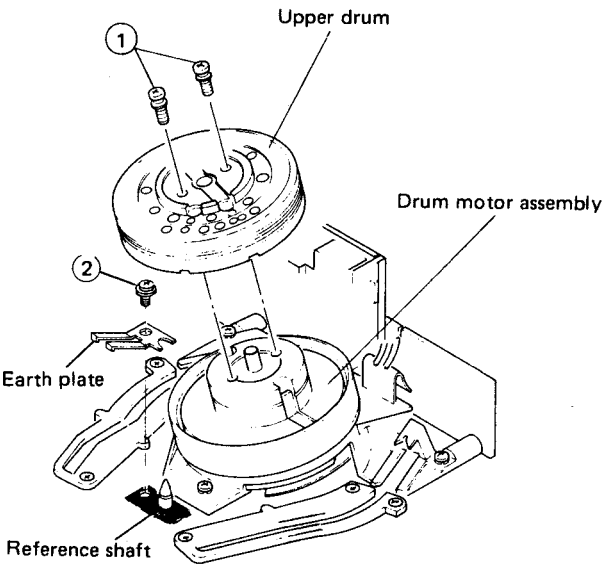

Fig. 1-5-1 Upper drum replacement
- 2) Take out screw ② and remove the earth plate as shown in Fig. 1-5-1.